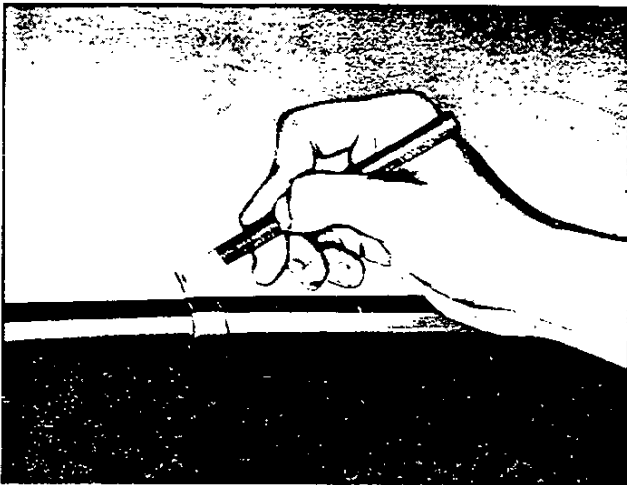

Fig. 67—Marking Molding Position
2. Mark position of right-hand upper reveal molding end (fig.67) and pry out from retaining clips. Repeat for left-hand and lower molding assemblies.
3. Remove lower (inside) garnish molding by removing four (4) nuts from fixed studs and carefully pulling molding outward.